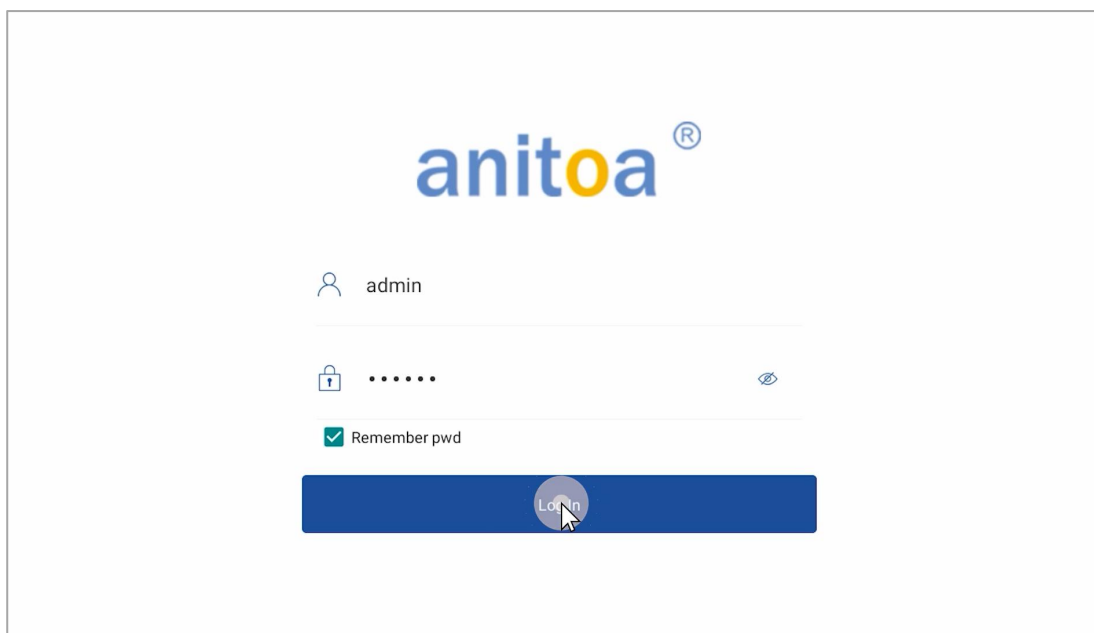

Figure 4.1-1 Login Interface
- 1) Launch the screen software "anitoa" to enter the login screen, as shown in Figure 4.1-1, and click the "Login" button.